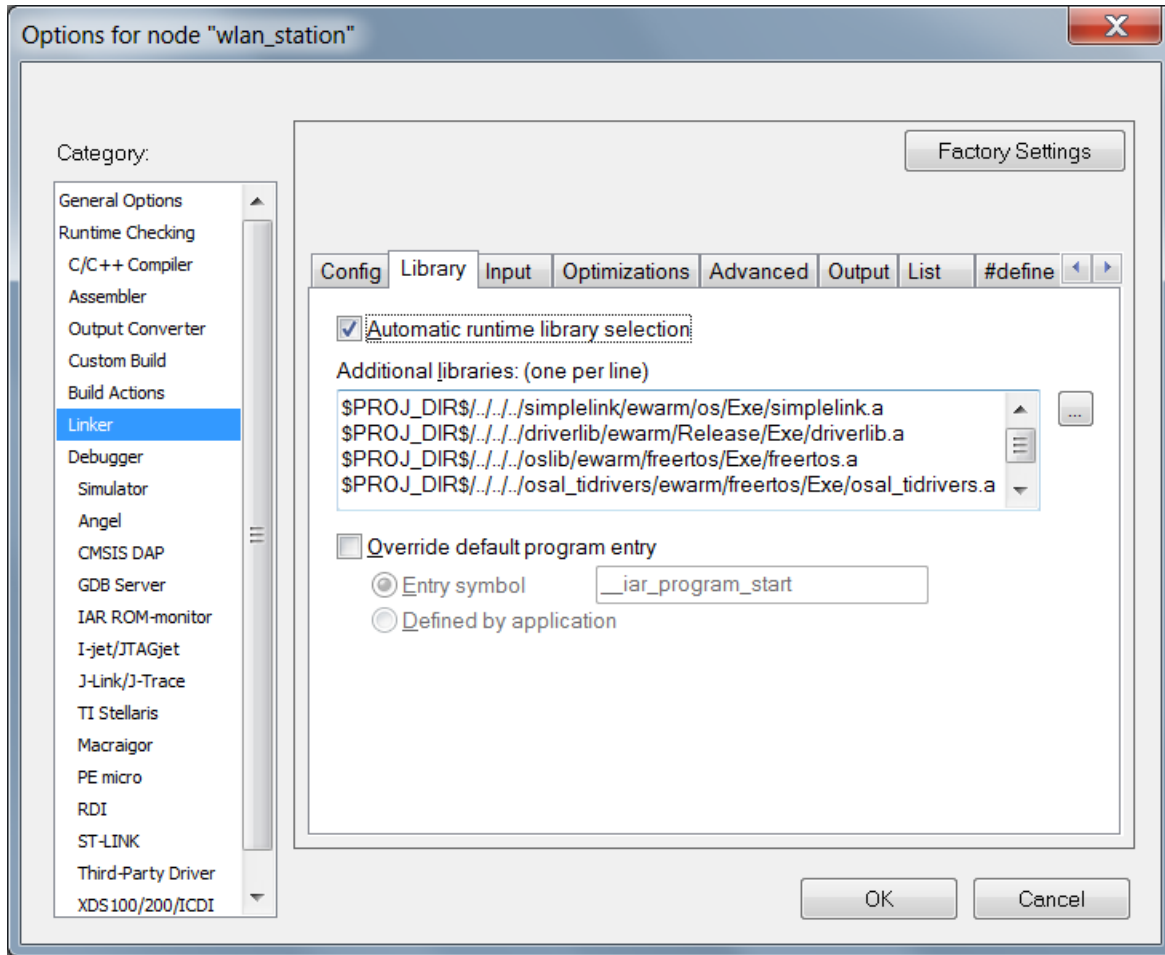
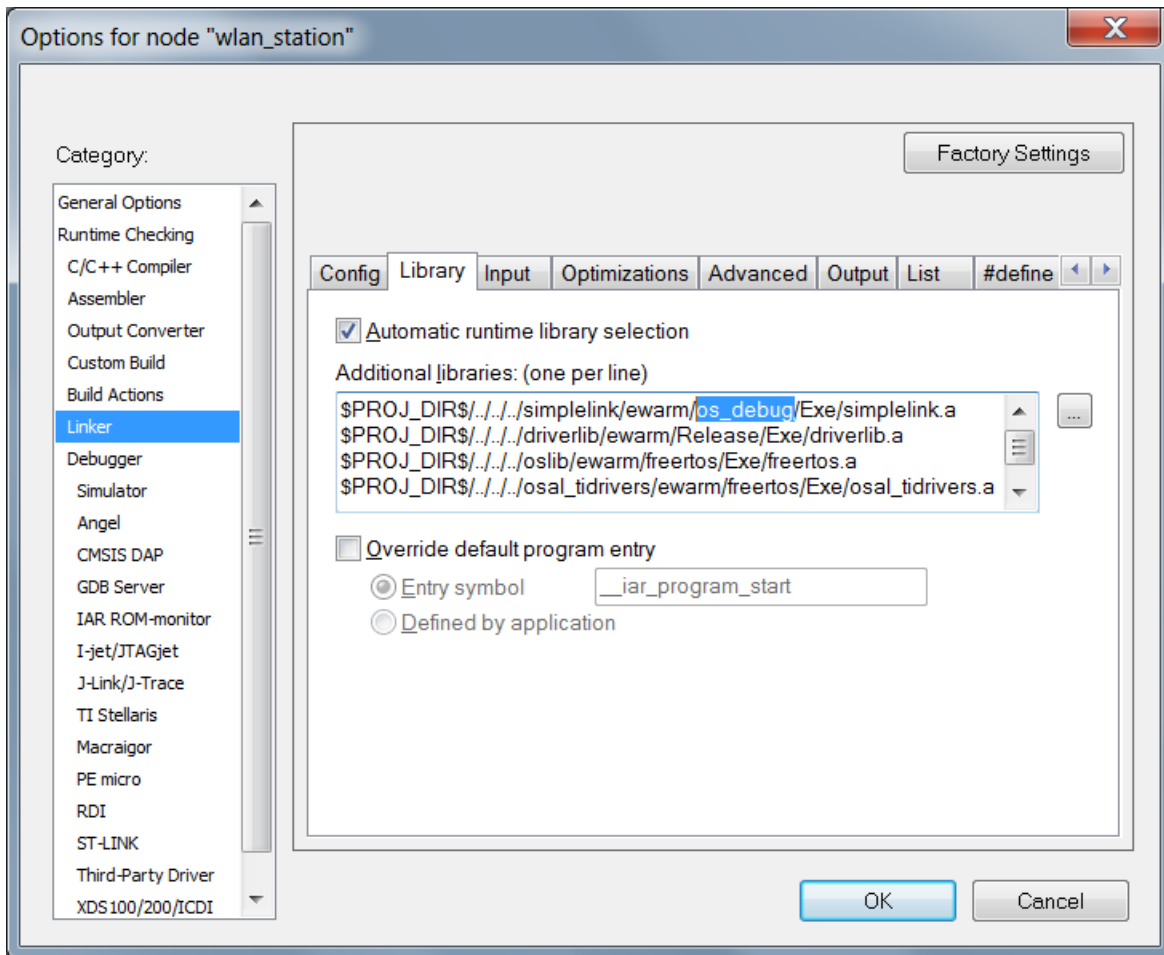

Figure 3-7. Relinking SimpleLink™ Library (IAR) (1 of 2)
Figure 3-8. Relinking SimpleLink™ Library (IAR) (2 of 2)
3. Edit the SimpleLink library path, as shown in Figure 3-7 and Figure 3-8.